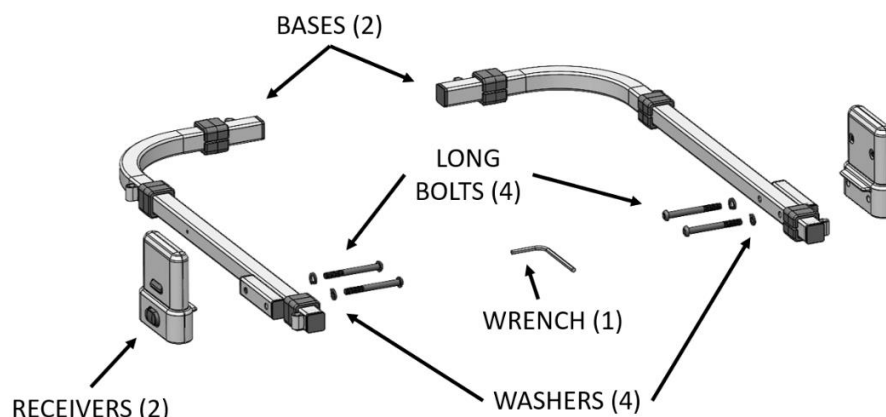

FIGURE 3
2. Attach **RECEIVERS** to **BASE** tube assemblies with **LONG BOLTS** and **WASHERS** using the **WRENCH** as shown in Figure 3.